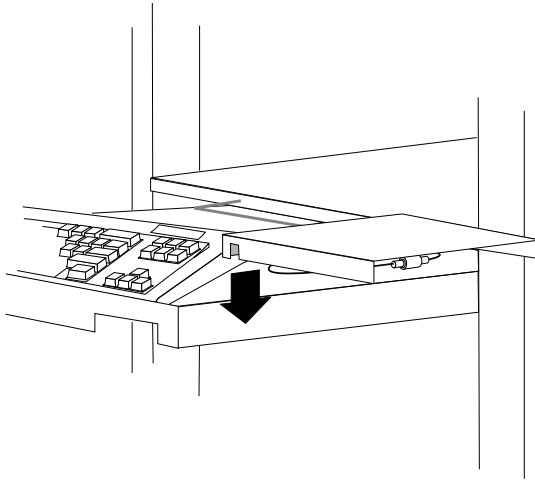

Figure 10. Attaching the mouse pad
2. With the mouse pad in a vertical position, insert the hooked lip of the mouse pad into the slot on the edge of the keyboard tray. Then, lower the mouse pad into a horizontal position to lock it into place (see Figure 10). When not in use, the mouse pad can be stored behind the keyboard on the keyboard tray.